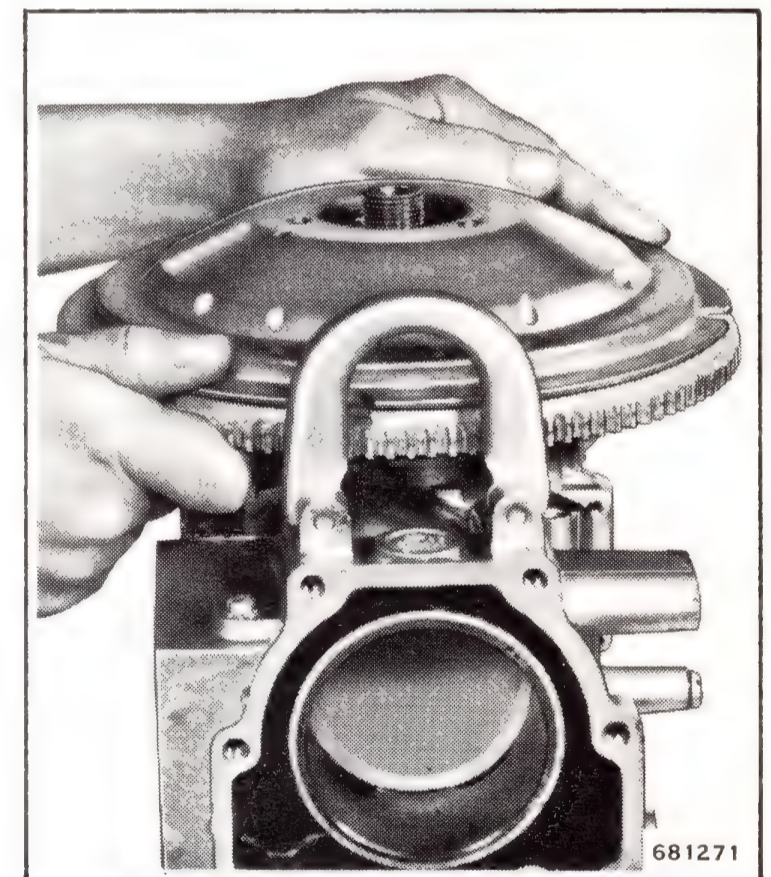

Figure 5-36. Check for Binding
d. Check for binding between the crankshaft and the bearings or connecting rods by rotating the crankshaft with the flywheel. See Figure 5-36.